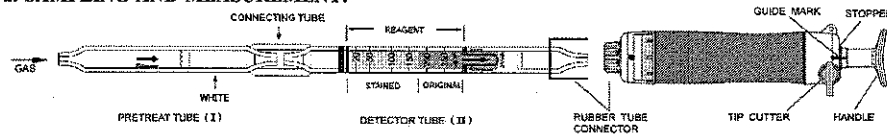

Fig.1
- ① Break both ends of the detector tube (II) and pretreat tube (I), and connect each end of the detector tube and pretreat tube with connecting tube as shown in Fig.1.
- ② Insert the detector tube into the aspirating pump securely as shown in Fig.1. (Arrow marks shall point to the pump.)
- ③ Align the guide marks on the shaft and stopper of the aspirating pump.
- ④ Pull the pump handle at a full stroke until it locks and wait for 1.5 minutes or until the completion of sampling is confirmed with the flow indicator of the pump. (See descriptions about the flow indicator in the instructions of the pump.)
- ⑤ Push back the handle without removing the detector tube from the rubber tube connector so that air in the pump will be discharged perfectly. Then repeat the step ③~④ once more.
- ⑥ On completion of sampling, read the scale at the maximum point of the stained layer.
- ① Temperature; Correct the tube reading by following temperature correction table.